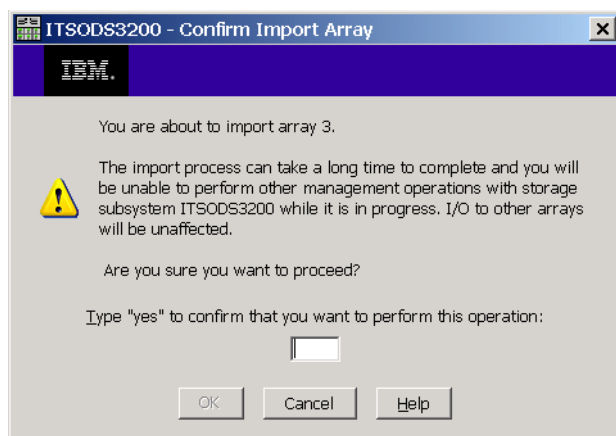

Figure 14-59 Import Array - Confirmation
3. Click the **Finish** button. The window shown in Figure 14-59 appears. Give the final confirmation by typing yes and clicking **OK**.